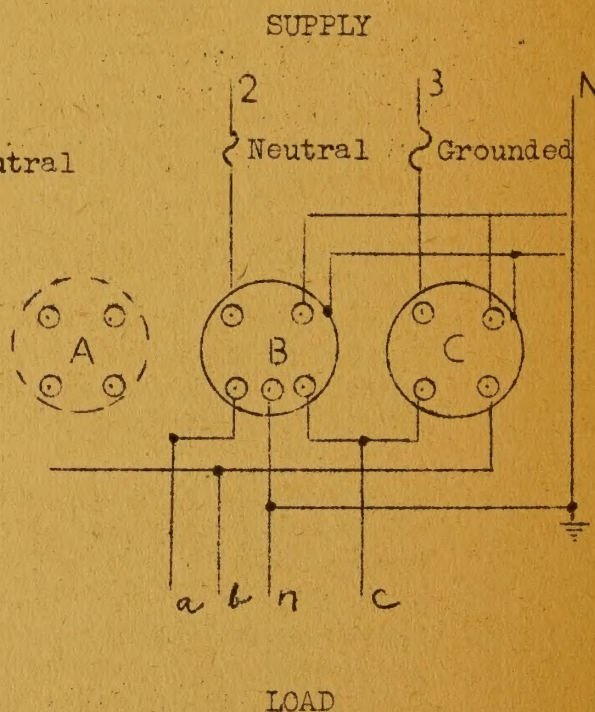

Figure 5
2. Disconnect, and remove from service, transformer A of the three transformers. The final connections are shown in Fig. 5. Phase 2 must not be connected to phase 3 at any point between the bank and the substation. Connect transformer neutral bus to ground.